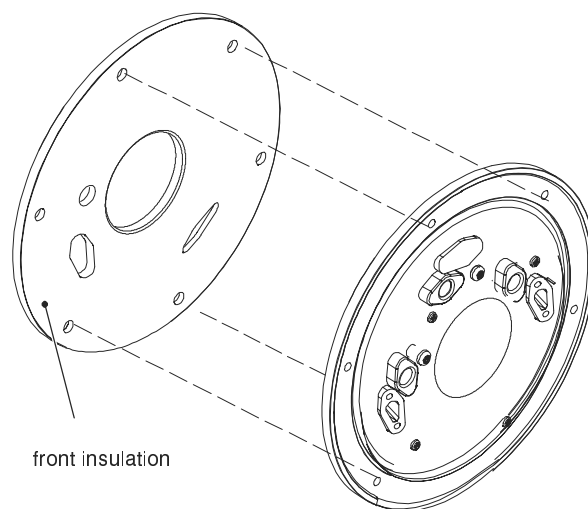

Fig. 18.5
- 4 Remove the front insulation panel (Fig. 18.5).